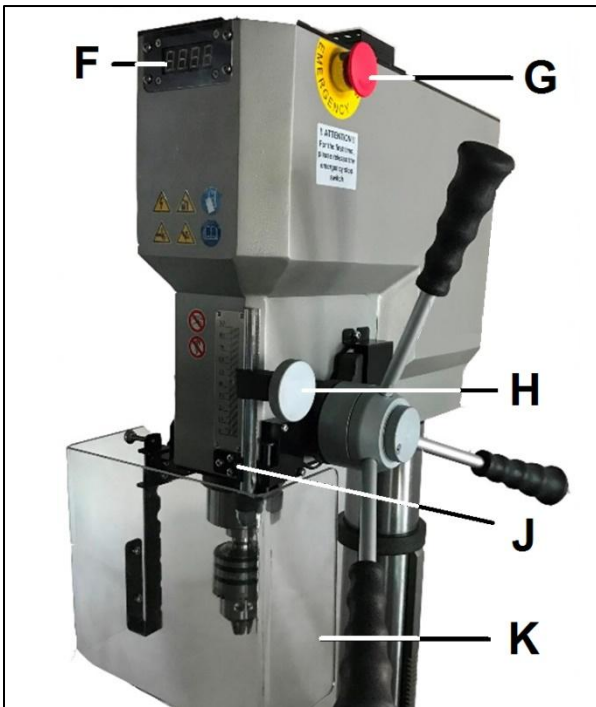

Figure 6-1: Depth stop adjustment
3. With your other hand, advance lock knob (H, Fig. 6-1) on the depth stop rod until they are snug to the seat (J).
The Digital Readout (F, Fig. 6-1) displays the actual speed while spindle is rotating.
In case of emergency, operate the Emergency Stop button (G, Figure 6-1).